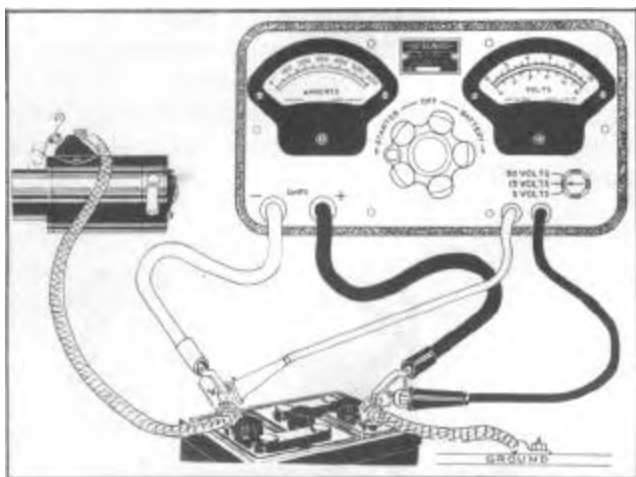

FIGURE 4
2. Turn the voltmeter "selector switch" to the 15 volt position and connect test leads, Figure 4.